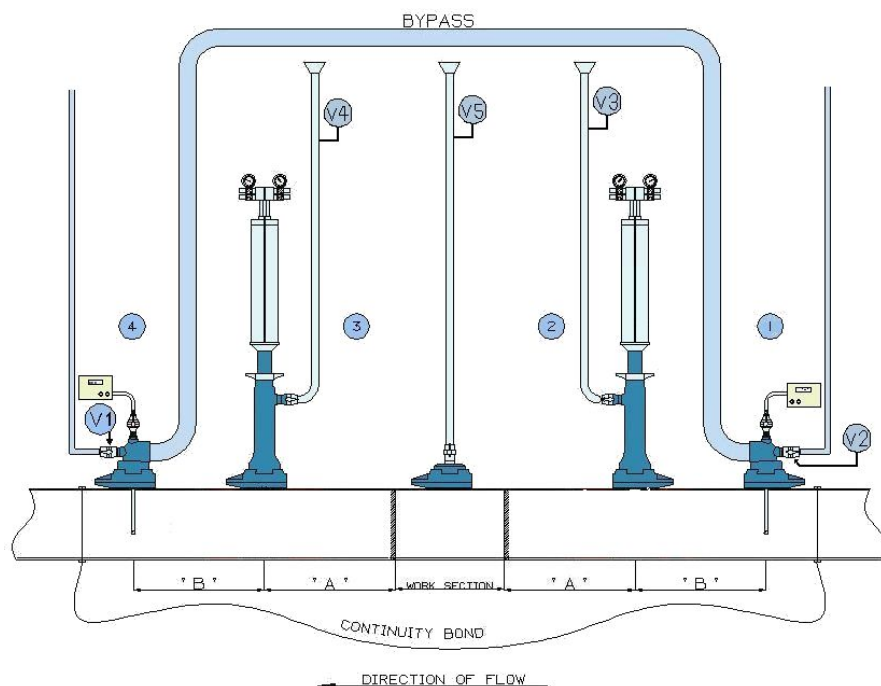

Figure 75– Initial Arrangement for Bagstop
- An additional Vent point is required when using this system which should be located within the Section of Main to be cut out see Figure 75.